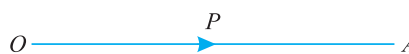

Fig. 1.2. Vector  $\vec{OA}$
- Representation of a vector.** A vector is represented by a directed line as shown in Fig. 1.2. It may be noted that the length  $OA$  represents the magnitude of the vector  $\vec{OA}$ . The direction of the vector  $\vec{OA}$  is from  $O$  (i.e., starting point) to  $A$  (i.e., end point). It is also known as vector  $P$ .